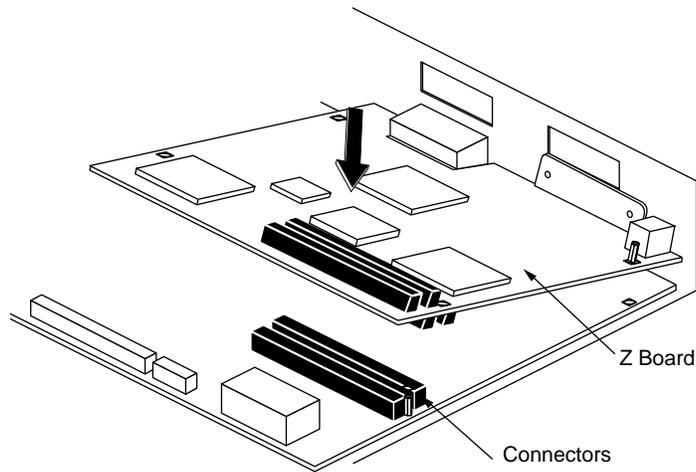

Figure 2-18 Positioning the Z Board Over the System Board
- Grasp the Z board by the sides, with the two male connectors on the underside, as shown in Figure 2-18.